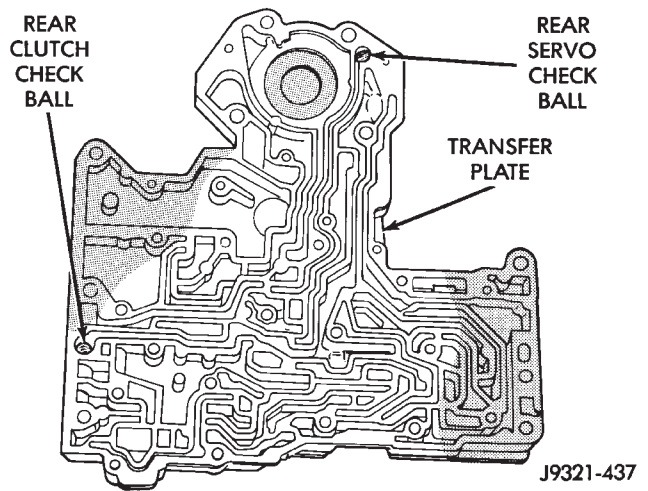

Fig. 78 Rear Clutch And Rear Servo Check Ball Locations
(1) Install rear clutch and rear servo check balls in transfer plate (Fig. 78).